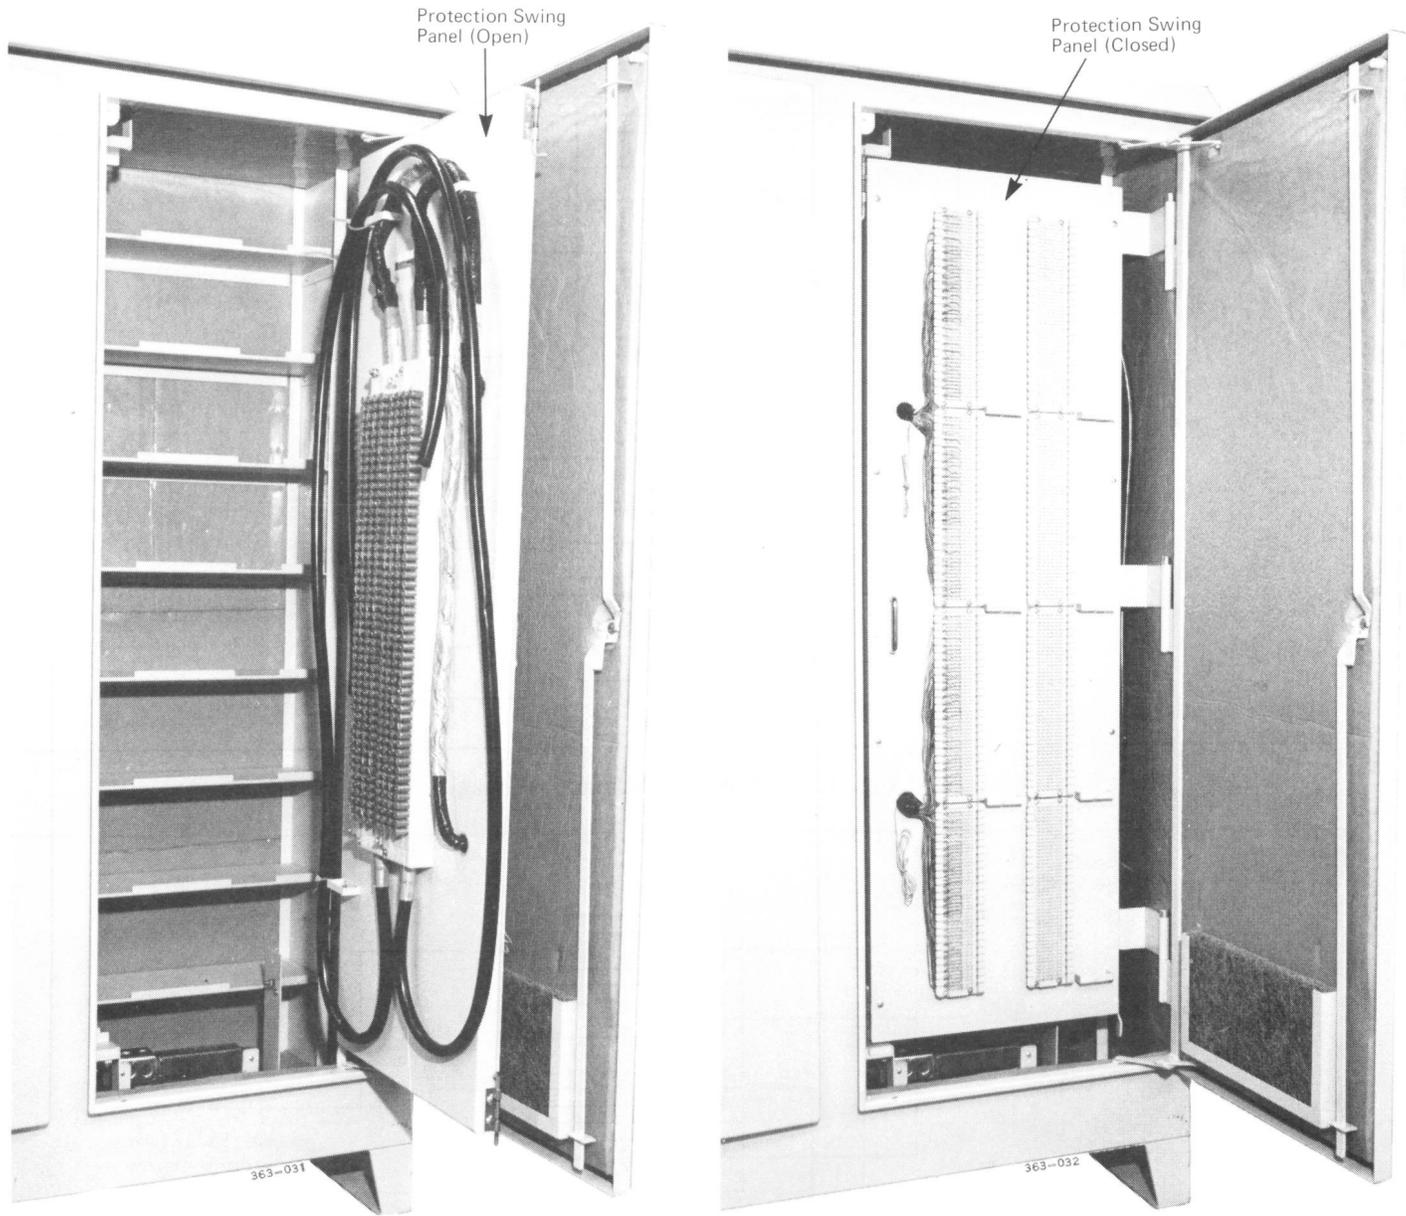

Fig. 14 — Hinged Swing Panel and Protection Blocks
2.15 The hinged swing panel accommodates two NE-134QA1B-100 protector blocks (Fig. 14). Standard protector units are NE-6A1QA gas tubes.